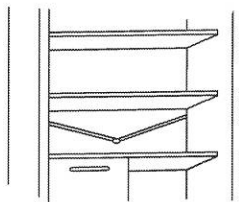

Fig.12
- Keep the drainage pipe (fig.12) clean in the refrigerator compartment to keep it free of water.